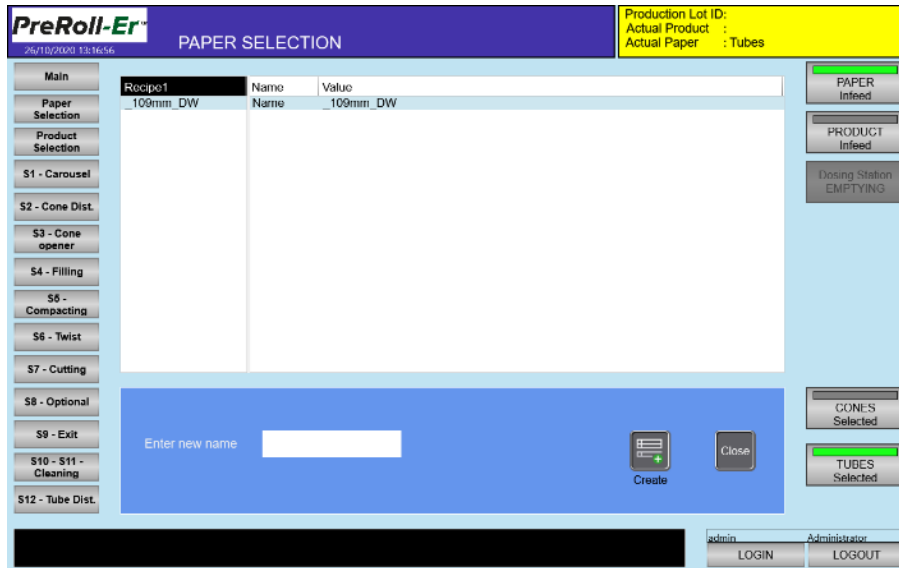

Figure 6-5 Create new recipe screen
3.1. **Create new recipe:** By clicking on it, a new screen is displayed as shown in Figure 6-5.
3.2. **Save selected recipe as:** By clicking on it, the same screen is displayed as shown in Figure 6-5.